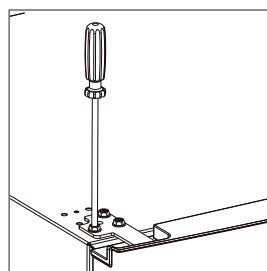

Fig. 15
- ▶ Do not tighten the screws completely yet so that you can still align the freezer door (7). Tighten the screws firmly only when it is possible to close the freezer door (7) evenly.
- ▶ Place a washer onto the hinge pin of the middle hinge and place the refrigerator door (2) onto the hinge pin.
- ▶ Now place the refrigerator compartment door (2) on the middle hinge (6) by positioning the recess at the bottom of the refrigerator compartment door (2) onto the hinge pin.
- ▶ Secure the upper hinge using the retaining screws as well (Fig. 15).